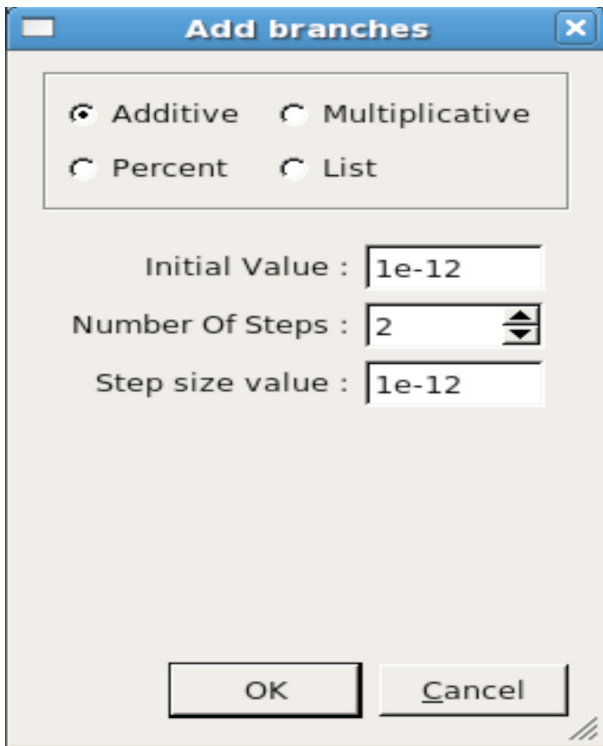

Figure 12. Split capval.
3. split "capval" value increased $1e-12$ from default. See Figure12,13